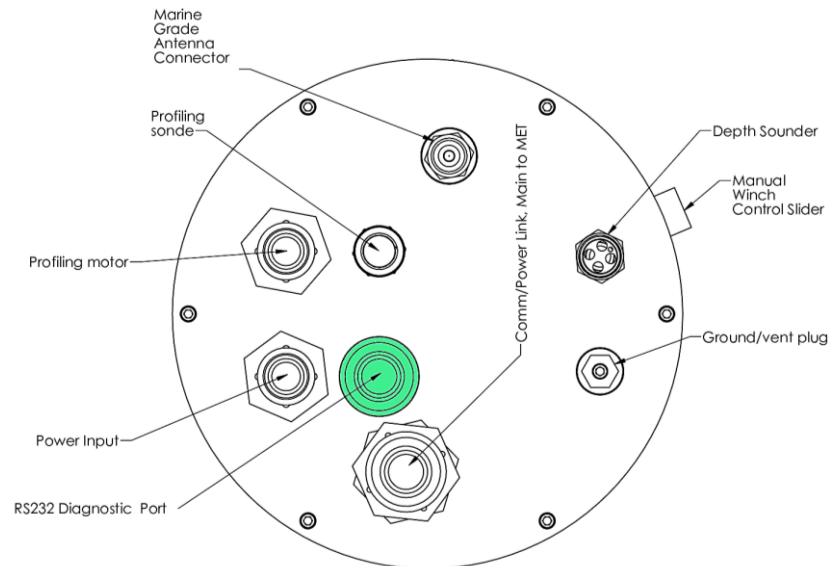

Figure 47. RS-232 Diagnostic Port on Profile Canister (Lower Canister) in Green
2. Connect a laptop to the Controller Assembly using the diagnostic cable. Attach the buoy serial cable to the RS-232 diagnostic port on the profiler (lower) canister to a laptop using a USB to serial adapter. Figure 47 displays the RS-232 diagnostic port in green.